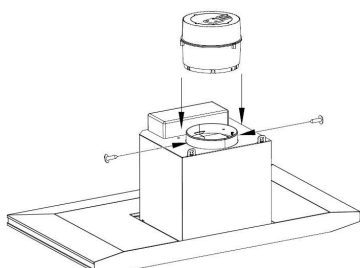
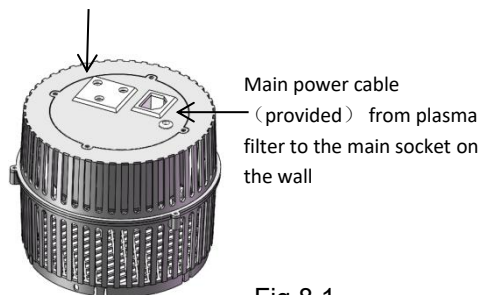
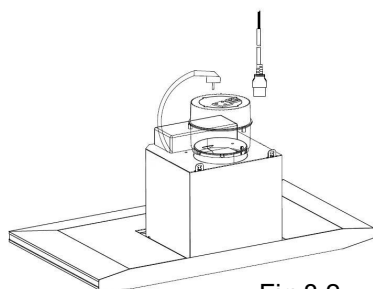
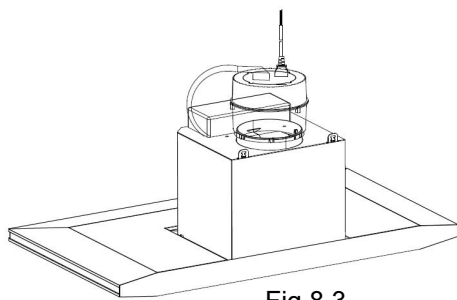

Fig.8
Fig.8.1
Fig.8.2
Fig.8.3
Step 3 (Fig.8, Fig.8.1, Fig.8.2, Fig.8.3)
- Mount the plasma filter carefully and level on the motor housing. Use the screws provided (ST3.9*12mm screws) to clamp the filter firmly. (Fig.8)
- Check the corresponding power sockets before plugging in the power cable. (Fig.8.1)
- Connect the existing power cable from the extractor hood to the plasma filter universal socket (Fig.8.2)
- Connect the main power cable (provided) from the plasma filter to the main power socket on the wall. (Fig.8.3)